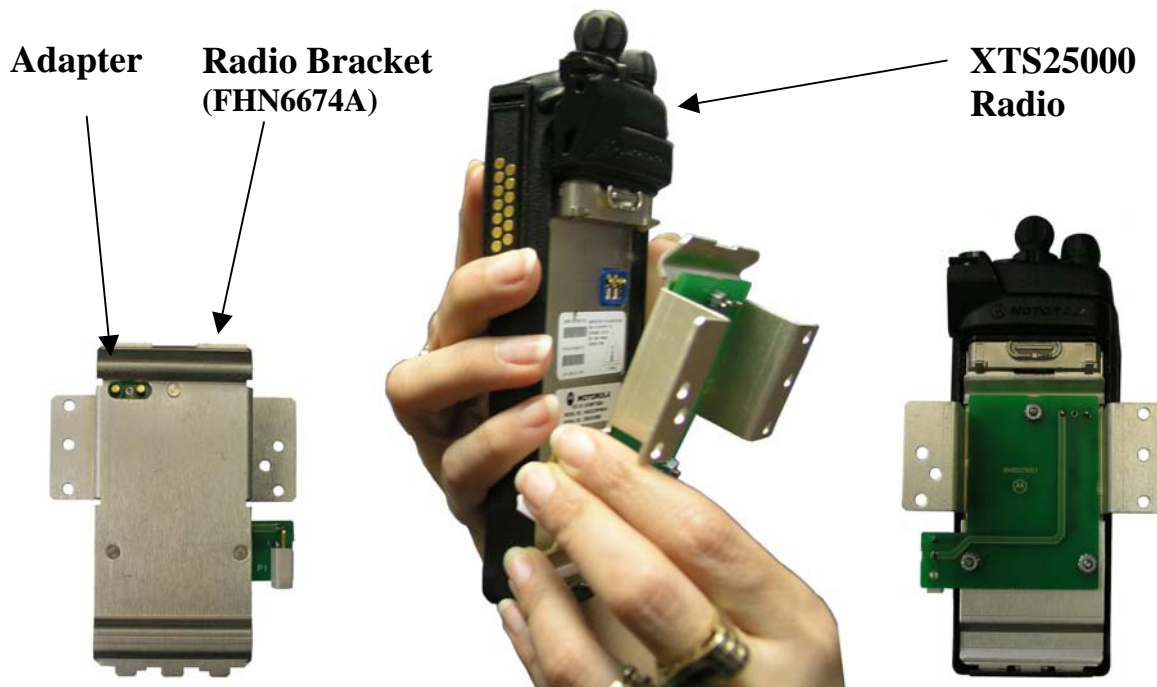

Figure 13-8 XTS2500 Radio and Metal Bracket
1. Attach the XTS 2500 radio to the radio bracket (from FHN6674A). (See Figure 13-8.)